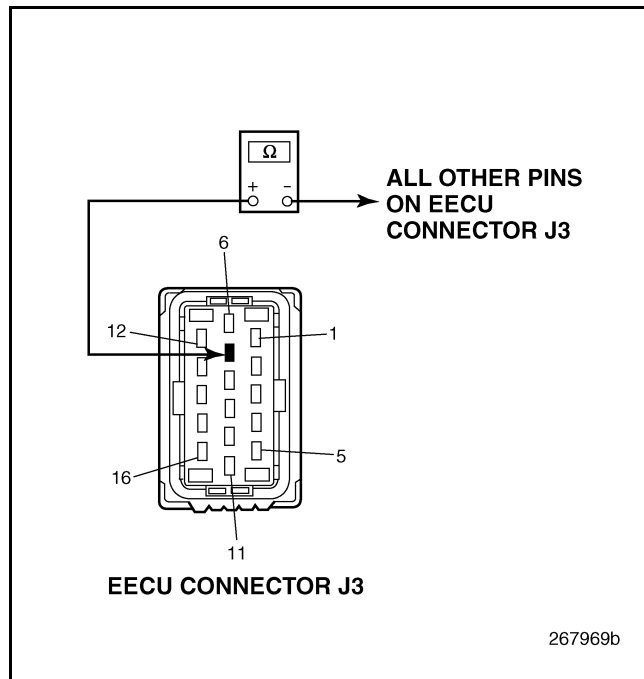

Figure 425
4. Install the purple male test lead found in the J 38581 V-MAC Jumper Wire Kit into EECU harness connector J3, pin 7. Check for continuity between EECU harness connector J3, pin 7 and all other pins in EECU harness connector J3 (see Figure 425).